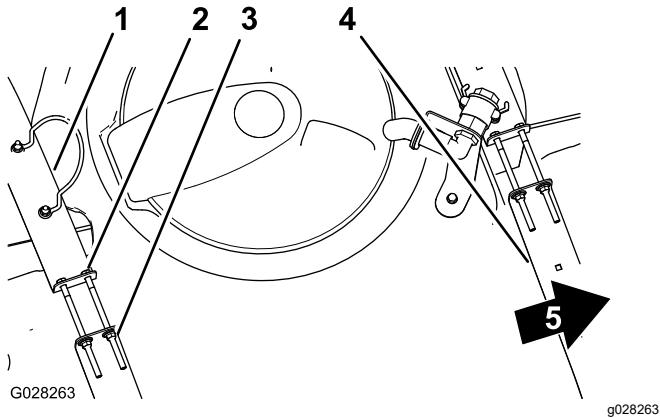

Figure 32
2. Check to see if there is any movement between the tank straps and the tank (Figure 32).
3. If the tank straps fit loose to the tank, tighten the flanged locknuts and bolts at the top of straps until the straps are flush with the surface of the tank (Figure 32).